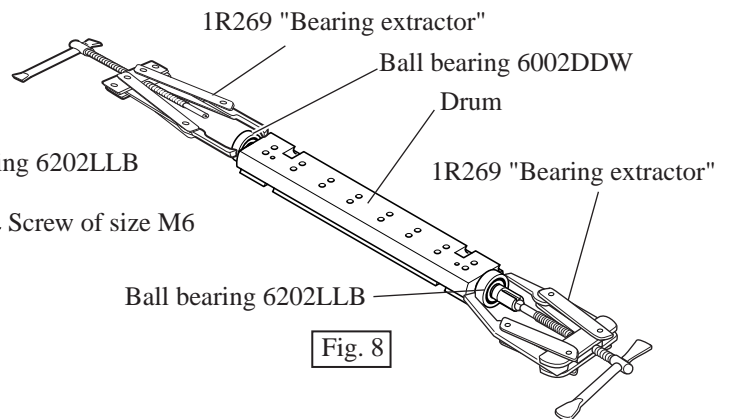

Fig. 8
(2) Remove ball bearing 6202LLB with No.1R269 "Bearing extractor". See Fig. 8.
(3) Remove ball bearing 6002DDW with No.1R269 "Bearing extractor". See Fig. 8.